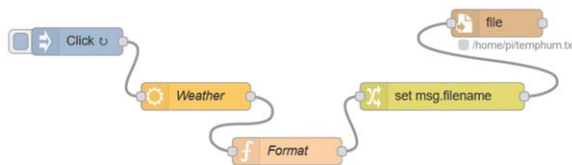

Figure 10.1 Flow program of the project
Node-RED flow program: Figure 10.1 shows the flow program which consists of 5 nodes: an **inject** node which repeats every minute, an **openweathermap** node which gets the local weather report, a **function** node which formats the data, a **change** node which specifies the name of the file, and a **file** node which stores (appends) the data into the specified file.
- Join all the nodes as shown in Figure 10.1, and click **Deploy**.